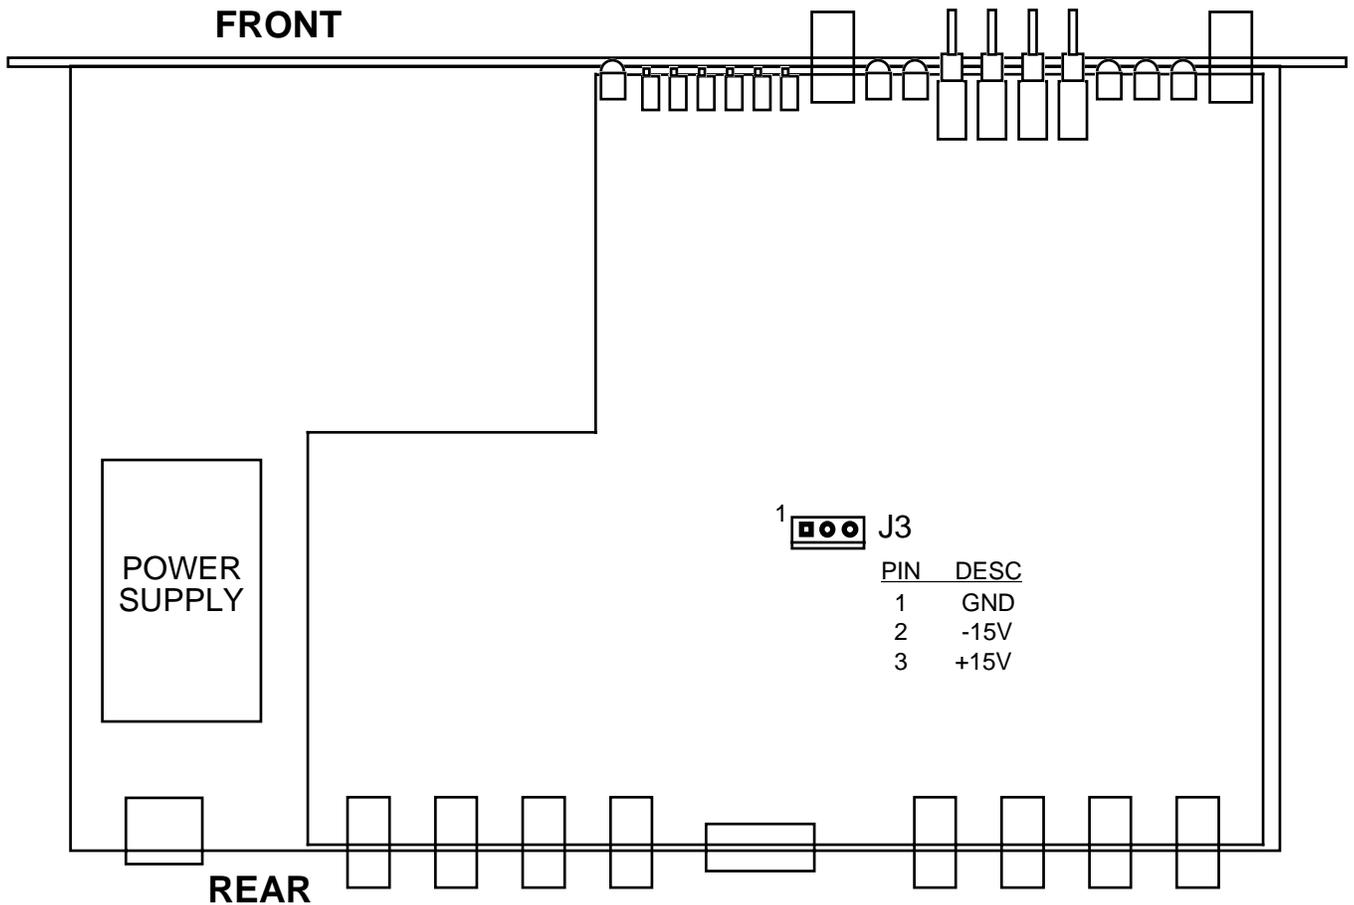

FIGURE 2.1 1200-05 Mechanical Assembly
2.1 Mechanical - The 1200-05 consists of one PCB assembly and one power supply housed in a 1 RU (1 3/4 inch high) by 14 inch deep chassis. An AC power supply provides +15 VDC and -15 VDC to the PCB. The 1200-05 can be secured to a rack using the 4 holes on the front panel. Figure 2.1 shows how the 1200-05 is assembled.